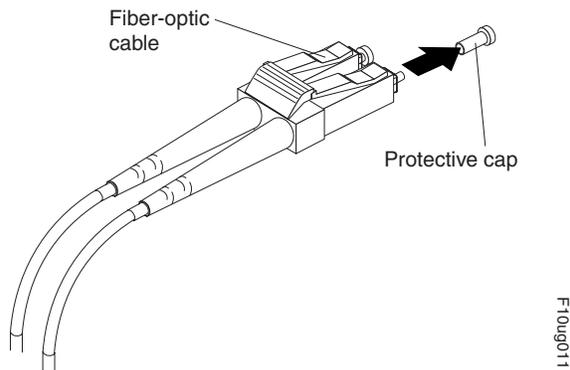

Figure 32. Removing fiber-optic cable protective caps
3. Remove the two protective caps from one end of the LC-LC cable, as shown in Figure 32. Save the protective caps for future use.